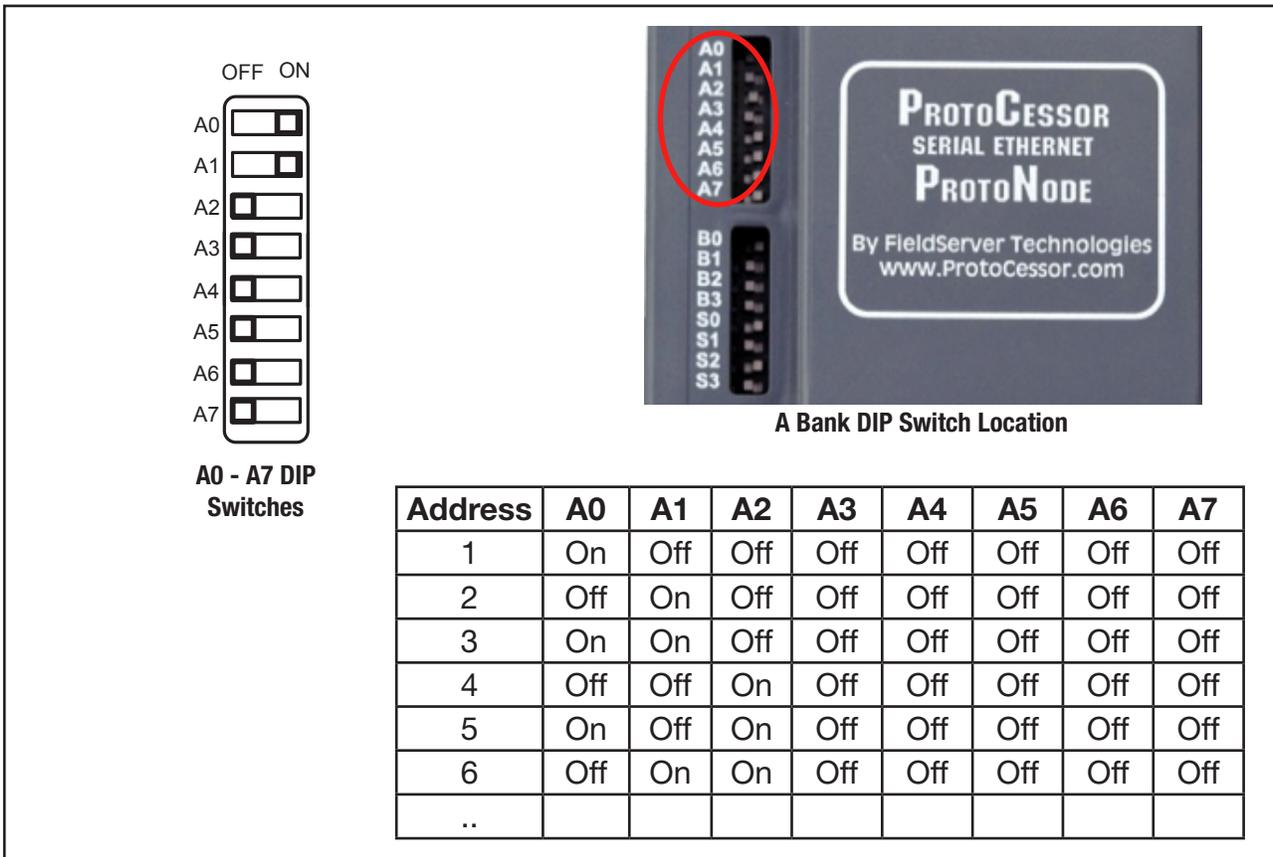

Figure 5: Switch Configuration for MAC Address
- See **Figure 5** for the switch settings to select Address. Please refer to Appendix C.1 for the complete range of MAC Addresses and DIP switch settings.